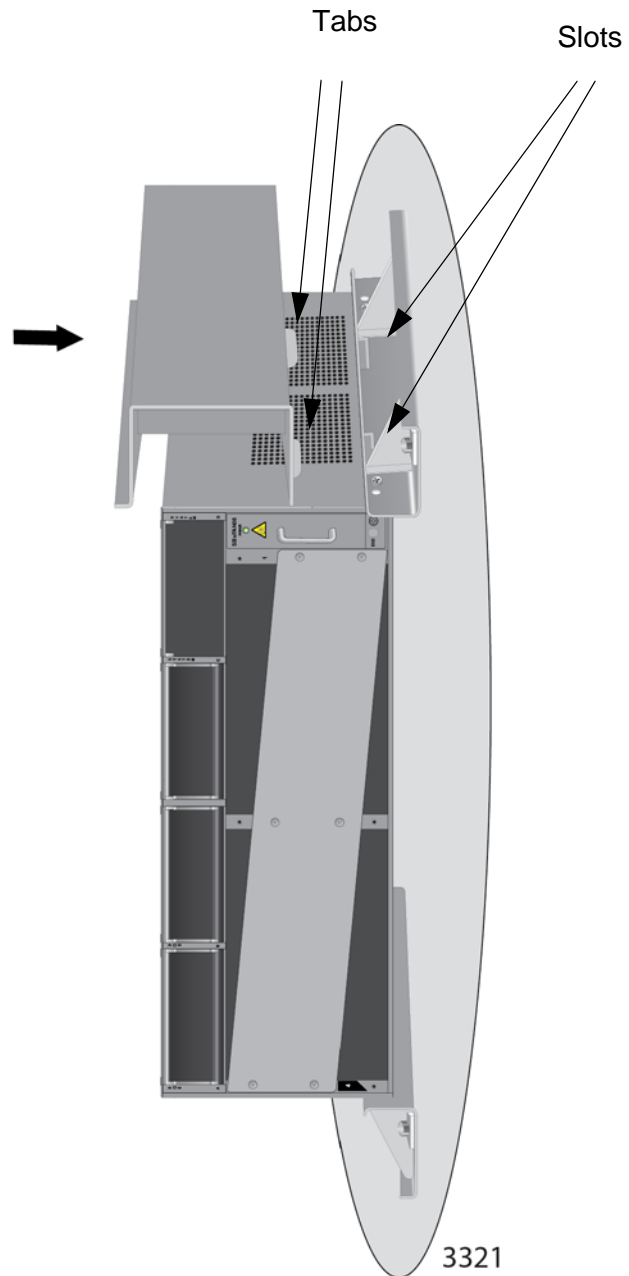

Figure 21. Installing the Top Vent Cover
1. Slide one of the vent covers that come with the brackets over the top vents of the chassis. The tabs on the cover fit into the slots on the bracket. Refer to Figure 21.